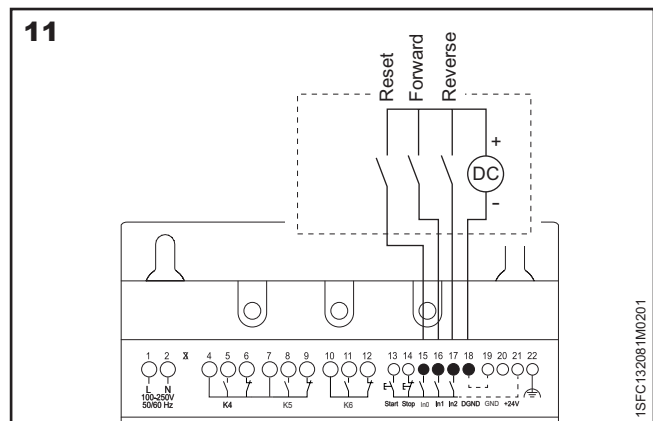

Figure 11: Programmable inputs with external source used. Typical for PLC.
Connect the cables according to **Figure 11** to use an external control voltage.
- Connect PLC control for reset as Reset in **Figure 11**
- Connect PLC control for pump cleaning forward as Forward in **Figure 11**
- Connect PLC control for pump cleaning reverse as Reverse in **Figure 11**